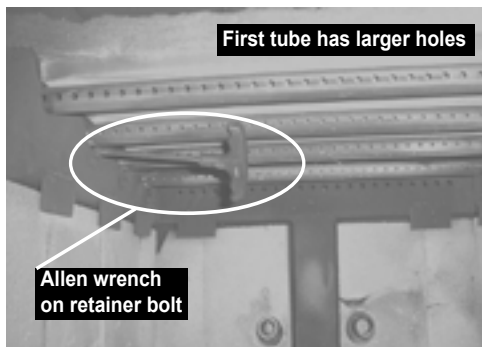

Figure 21A - Manifold tubes retaining bolt.
3. With a 3/16" Allen wrench, remove 2 front manifold tube retainer bolts on the air channel under the end of the front tubes. **NOTE:** Soak the bolts with penetrating oil for at least 15 minutes before trying to remove them. **Figure 21A.**